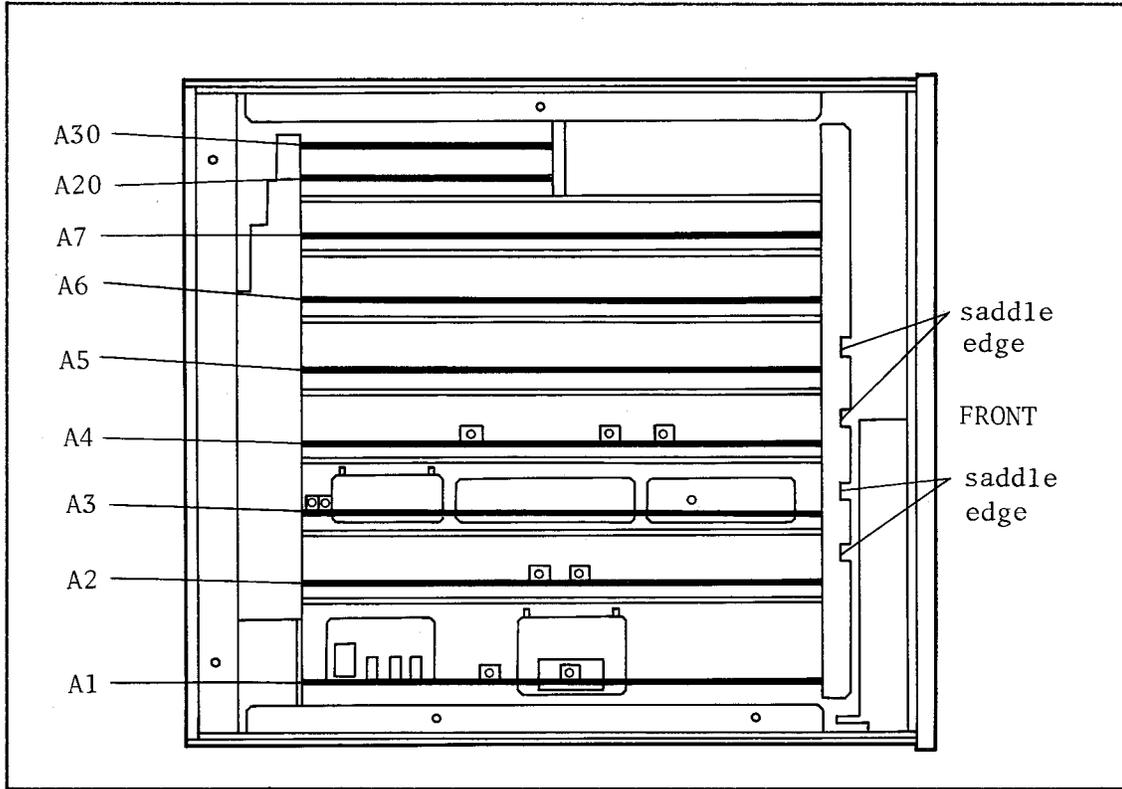

Figure 2-1. Board Locations
The Options available for the 4278A, all of which are field installable, are listed in Table 2-1. Table 2-1 lists the option numbers, gives a description of the option, and lists the paragraph number which describes the modification procedure for each option. Figure 2-1 shows the location of the board assemblies to be installed or modified, and the saddle-edge.
3. Install the 1MHz Transducer Board into the A3 slot, see Figure 2-1. Then place the coaxial cables on the saddle-edge (see Figure 2-1 for the location of the saddle-edge).
4. Remove the A5 Switching Matrix/Phase Detector board from 4278A, and connect coaxial connectors (H) and (I) from the A3 board to connectors (H) and (I) on the A5 board.
5. Reinstall the A5 board, then place the coaxial cables on the saddle-edge (see Figure 2-1 to locate the saddle-edge).
7. Connect coaxial cables (B) and (D) from the A3 board to connectors (B) and (D) on the A8 board.
8. Cut the cable ties on the coaxial cables from the A8 board, then bundle and tie all of the coaxial cables together (including cables (B) and (D)), using the cable ties listed in the required parts list.
3. Install the 1kHz Transducer Board into the A4 slot, as shown in Figure 2-1. Then place the coaxial cables on the cable clamp and the saddle-edge (see Figure 2-1 for the location of the saddle-edge).
5. Connect coaxial cables (A), (C) and (E) from the A4 board to the (A), (C) and (E) connectors on the A8 board.
6. Cut the cable ties on the coaxial cables from the A8 board, and bundle all of the coaxial cables (including the (A), (C) and (E) cables), and tie them together using the cable ties listed in the required parts list.
6. Reinstall the A2 board. Then hang the coaxial cable on the cable clamp and the saddle-edge (Figure 2-1 shows the location of the saddle-edge).
3. Install the #101 HP-IB Interface board in the A20 slot, as shown in Figure 2-1.